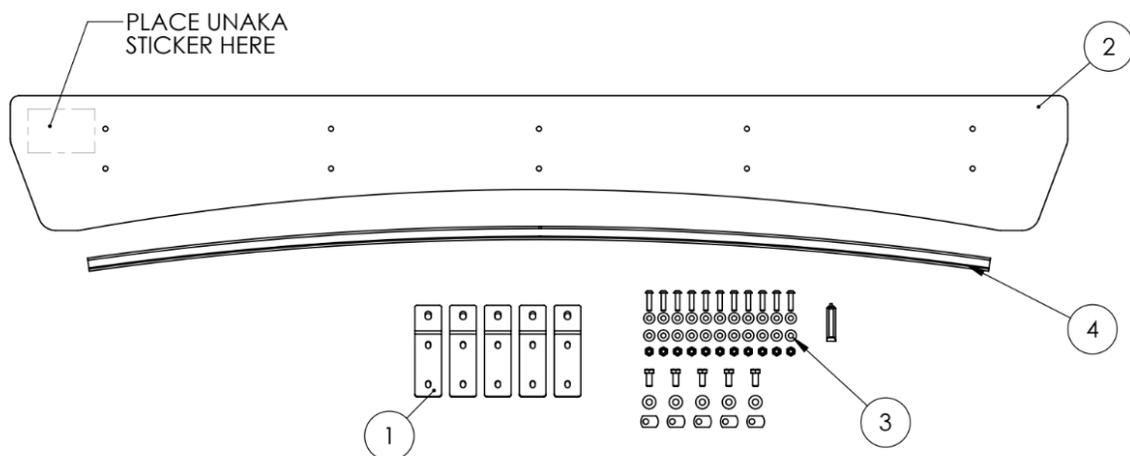

Figure 4: Wind fairing parts provided (Items are not shown to scale)
The Wind Fairing comes with the custom profiled High Impact CNC Machined Acrylic Wind Fairing (1 Piece, 5 wind fairing brackets, and the hardware required to bolt the wind fairing to the brackets and 8020 style bar. Table 1 lists the parts, part numbers, and quantities of parts required to assemble and install the wind fairing. Figure 4 shows what each part looks like. Please note that Figure 4 is not shown to scale. Please also note that we include some extra hardware in case you lose some or have issues. We included one extra of Items 5 and 7, and two extra of items 6.